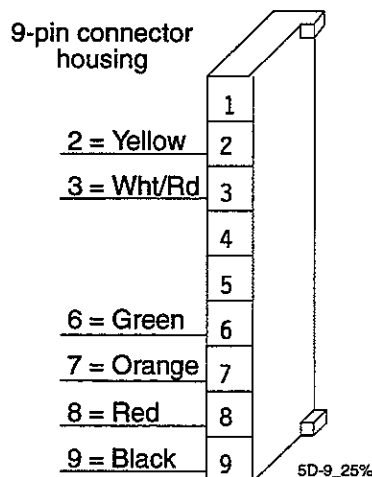

Figure 7-8. Motor Wiring Details
2. Repair the wiring (refer to *Figure 7-8. Motor Wiring Details*) or replace the assembly.